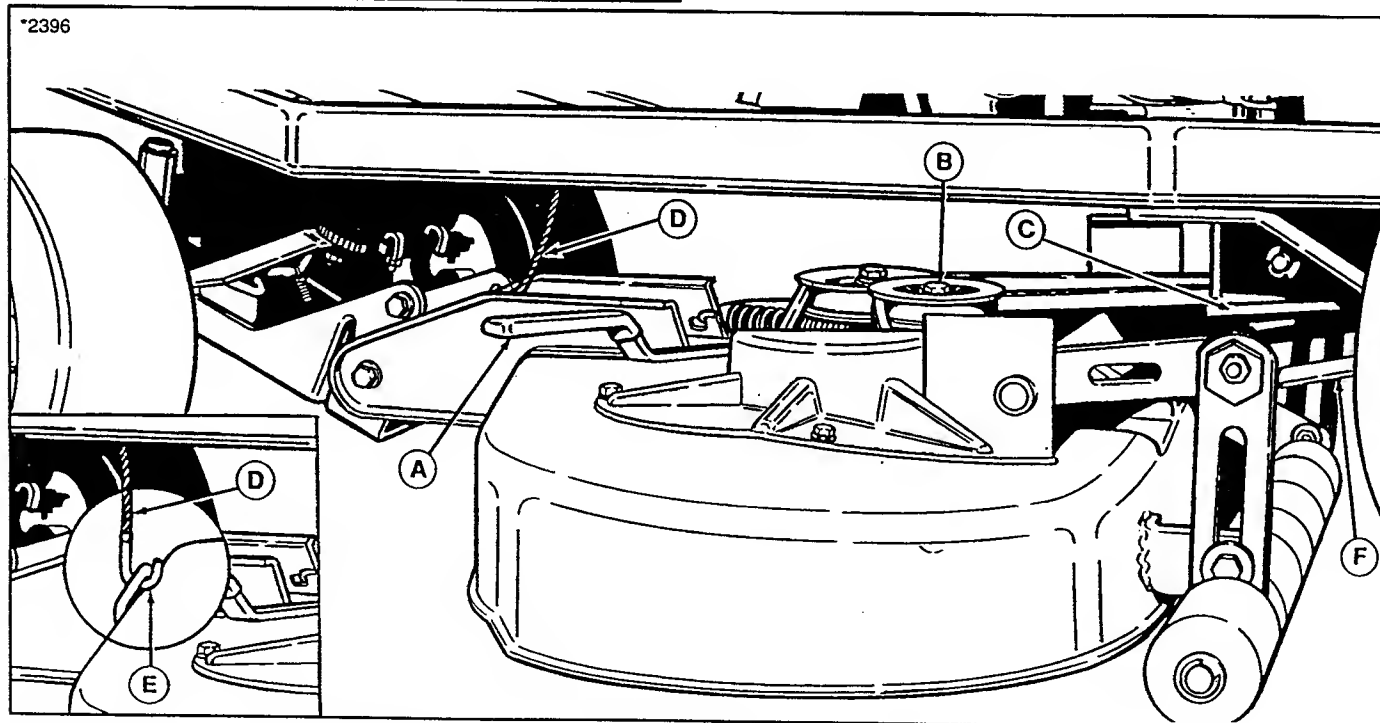

Figure 5. Mower Removal/Installation (34" mower shown)
Make sure there is 1/8" clearance between switch activator (C, figure 5) and switch plunger.
Check the seat switch (A, figure 5) every fall and spring with the tests listed below.
NOTE: Perform mower installation on a hard, level surface such as a concrete floor. For easier mower removal and installation, rear trailing arms (F, figure 5) can be removed by removing spring clips and clevis pins.
- On left-hand side of 34" mower, push idler pulley arm (A, figure 5) to relieve belt tension.
- With belt tension relieved, remove belt from idler pulley (B, figure 5) and PTO pulley (C). Removing belt relieves tension on the front hitch assembly.
- With lift lever down and Dial-A-Cut™ control set to the lowest setting, remove lift cable (D, figure 5) from mower hook (see inset illustration, figure 5).
- To install mower, reverse above steps. Check mower belt pattern as shown in figure 7. Make sure that the mower lift cable is installed with hook toward the rear and rear trailing arms (F, figure 5) are positioned above rear torsion bar.